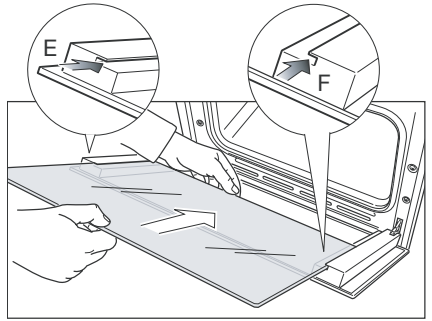
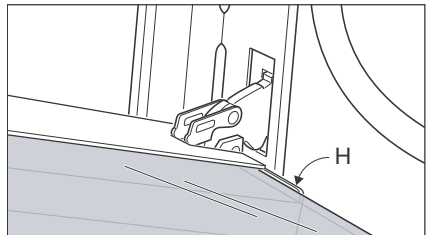

Fig.49b
Fig.49c
- Insert the pane in the left "E" and right "F" slide guides (Fig. 49b), and gently slide it to the retainers "H" (Fig. 49c).